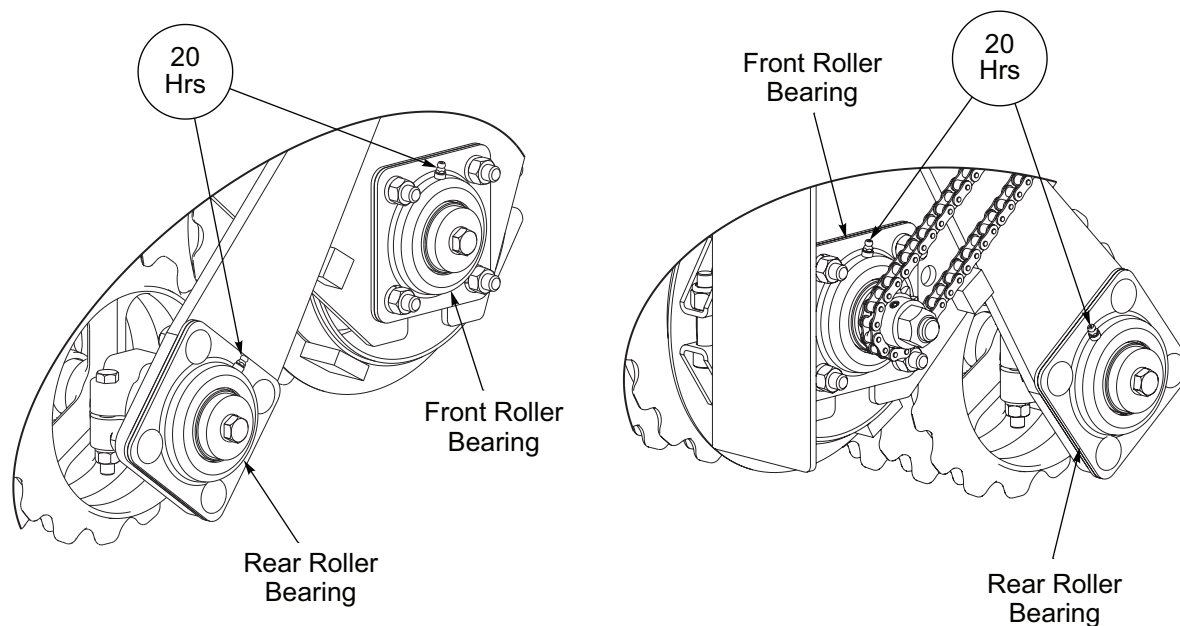

Figure 4-1: Lubrication Fittings
- Seeder has greaseable Bearings on the ends of the Front and Rear Rollers and should be greased every 20 hours. **See Figure 4-1.**